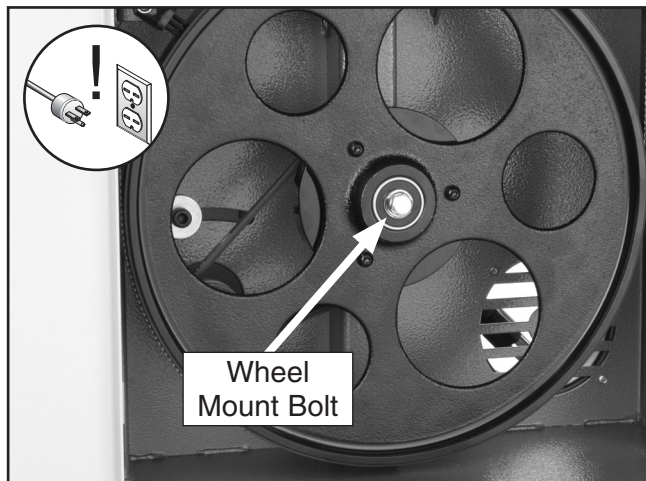

Figure 60. Wheel mount bolt.
3. Unthread the wheel mount bolt shown in **Figure 60** and slide the lower wheel off of the bearing shaft.